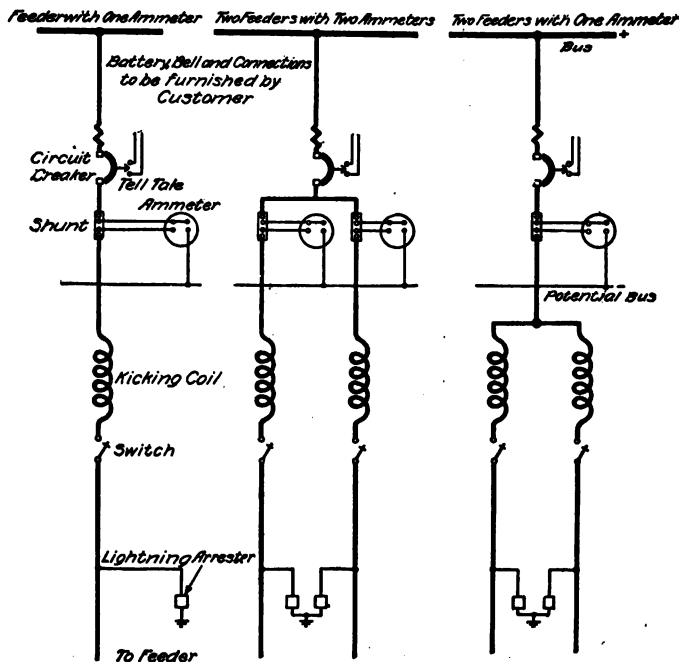

Fig. 312. D. C. Feeders.
D. C. feeder panels are connected as shown in Fig. 312.